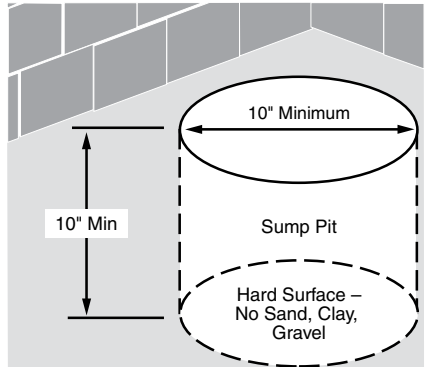

Figure 1
1. Install pump in sump pit with minimum sump size: 10" (254mm) diameter by 10" (254mm) depth. Construct sump pit of tile, concrete, steel or plastic, as shown in Figure 1. Check local codes for approved materials and for proper installation.